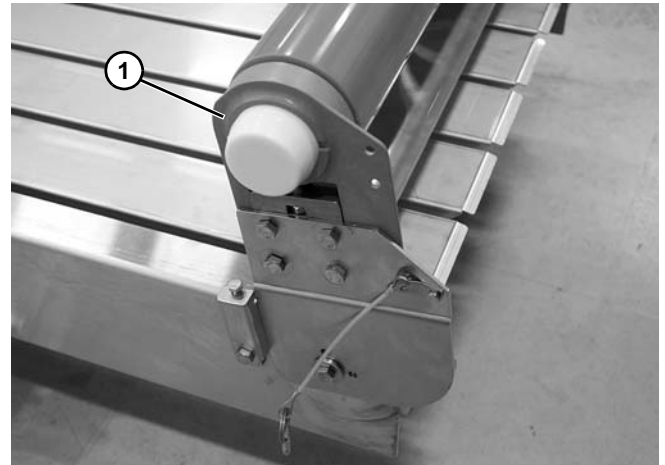

Figure 43
5. Rotate idler end (**Figure 43, item 1**) upward as shown.